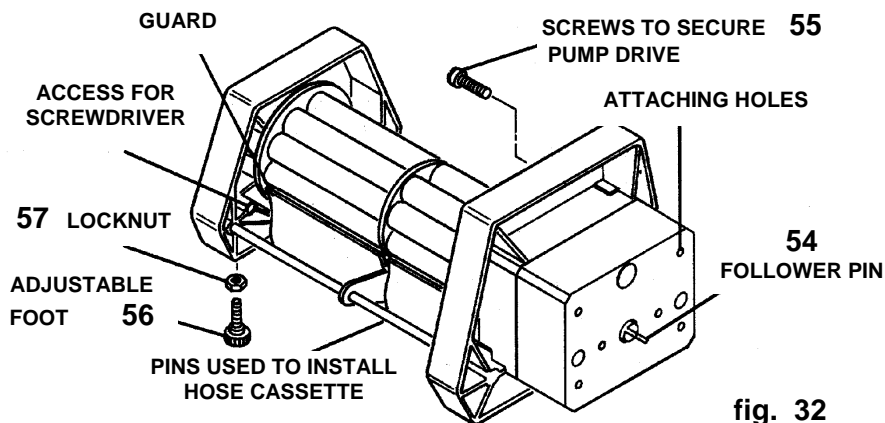

fig. 32
- Plug screws (50) from hardware kit in holes provided.
- Align multi-channel adapter coupling with counterpiece (51) on pump drive.
- Fit multi-channel adapter in coupling, align screws (50) with threaded holes (52) and pull both screws (50) tight with a screwdriver.
4.2. Install multi-channel pump head on pump drive (fig. 32)